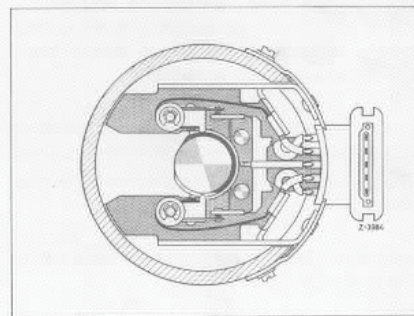

FIG. 12
2. The beginning of injection is signaled to the control unit by the IMPULSE SENDING UNIT (Fig. 12), or also referred to as distributor trigger points.